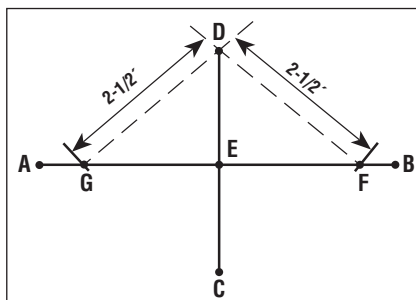

Fig. 2
2. Use the length of line EB (2 1/2') to mark points F and G by measuring from D. Place thumbtacks at F and G (Fig. 2).